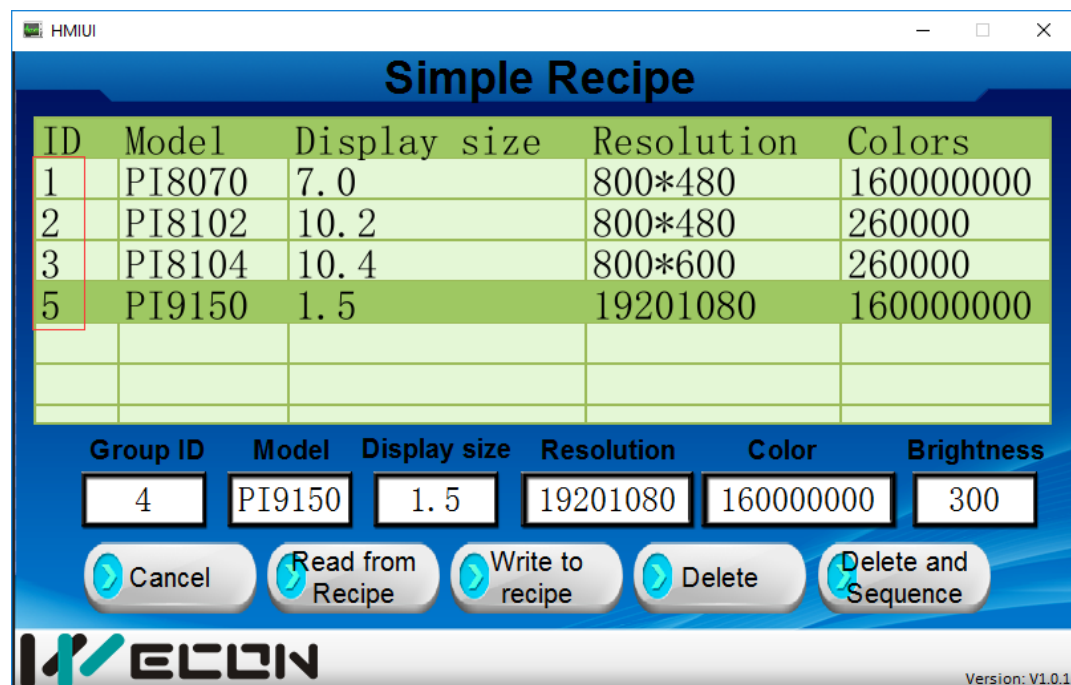

Figure 7
- 2) Click "Delete", it only deletes corresponding group, doesn't rearrange the ID number as figure 7 shows;